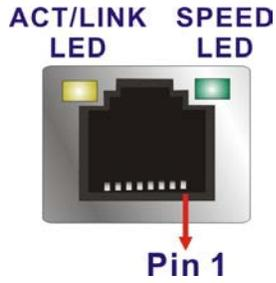

Figure 3-19: LAN Connector
- CN Pinouts:** See **Figure 3-19** and **Table 3-16**